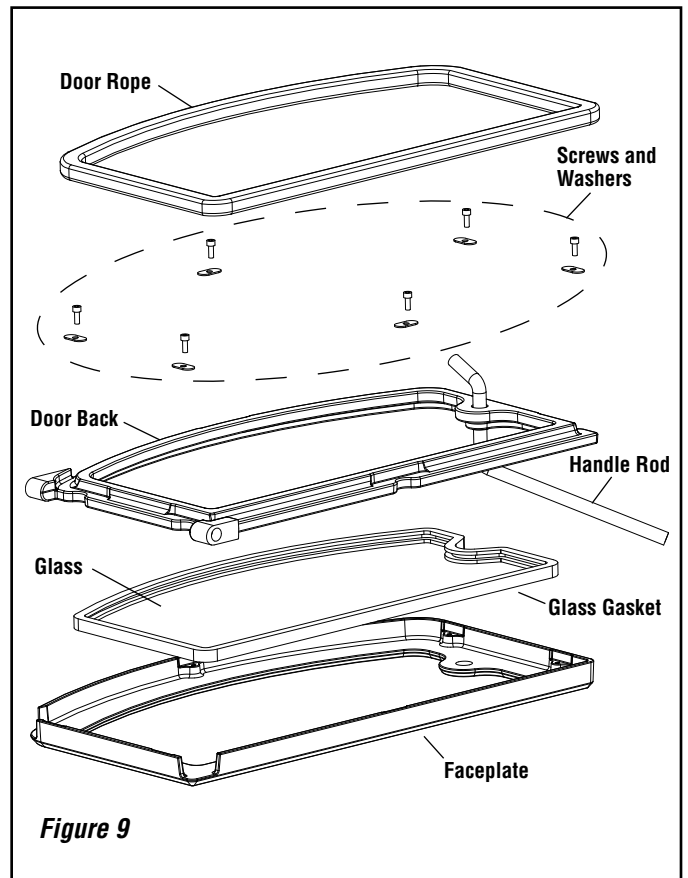

**Figure 7**
**Step 4. Install New Faceplate** - Slide the faceplate over the handle rod while the handle rod is at a 90° position (see **Figures 7 and 8**). Move the handle rod up and down and slightly in and out when sliding the faceplate onto the handle rod. **IMPORTANT, ALWAYS PRESS INWARD ON THE GLASS WHILE THE FACEPLATE IS NOT RETAINING THE GLASS, OTHERWISE THE GLASS MAY FALL OUT AND BREAK.**